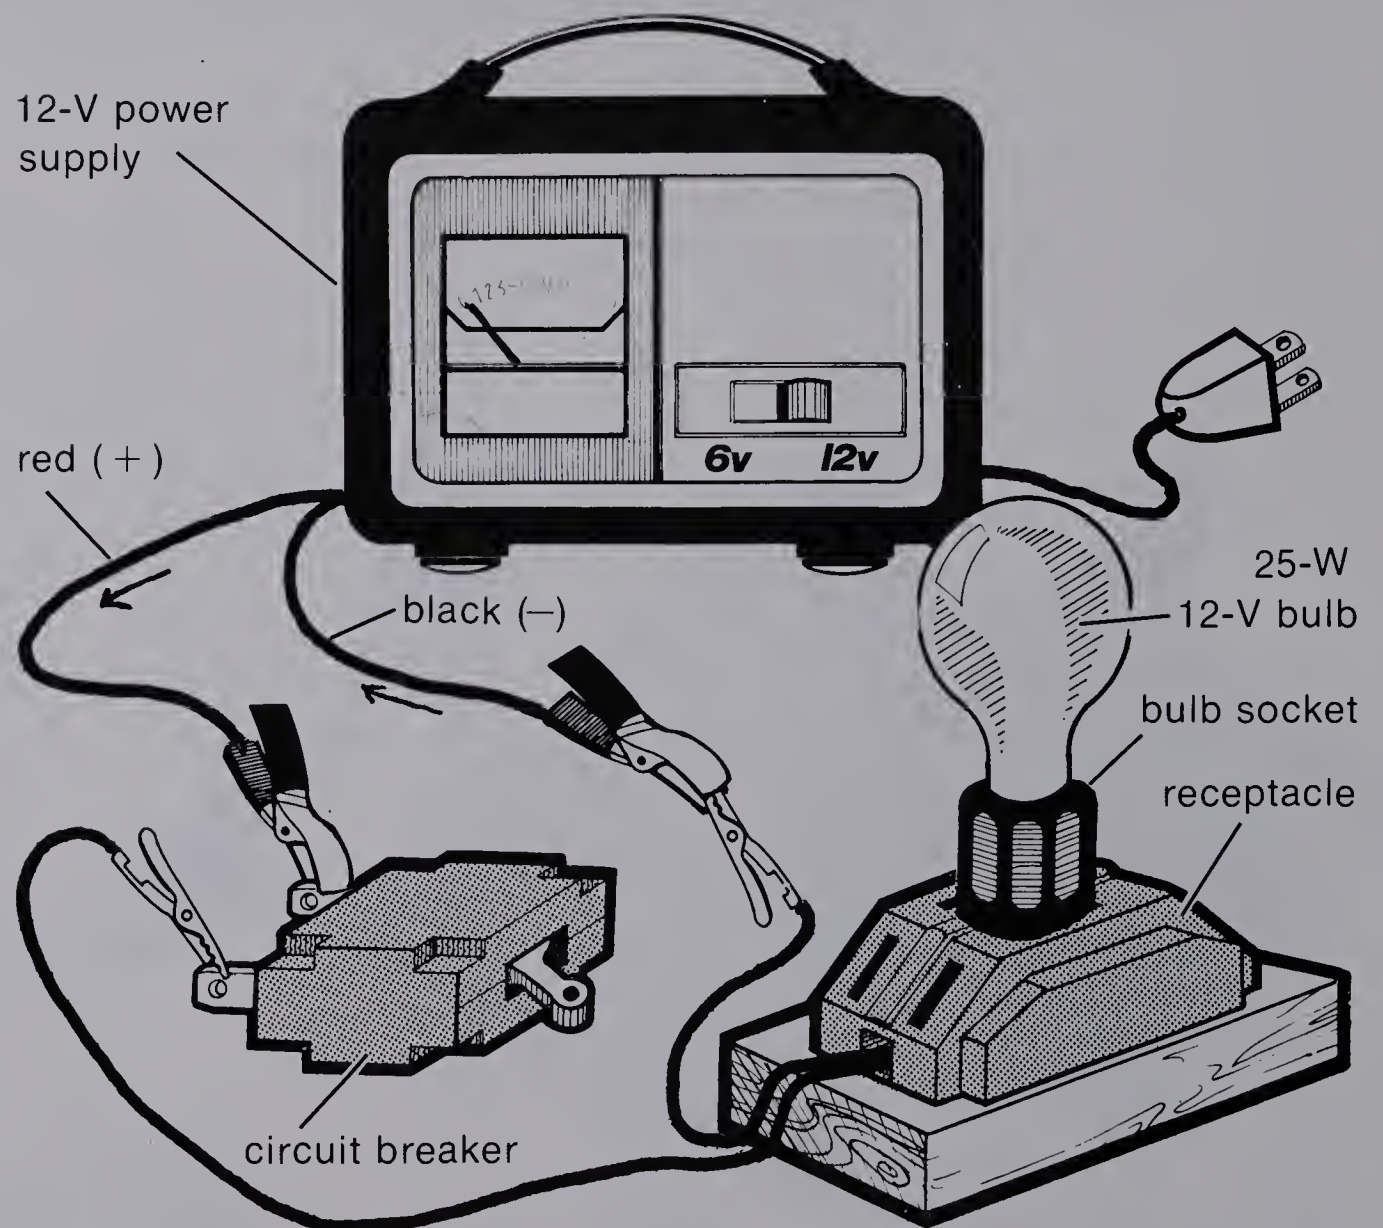
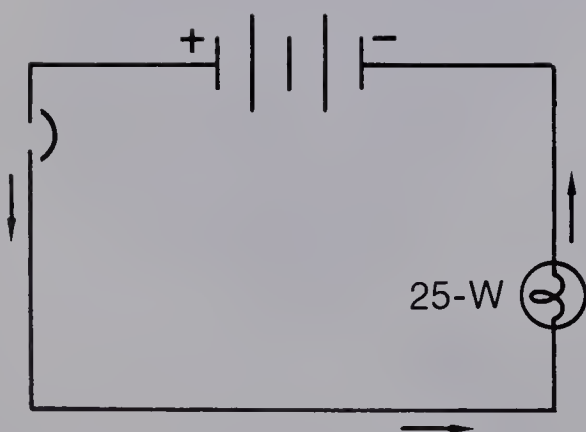

Figure 9-1
Figure 9-2
Figure 9-1 shows a circuit that will supply electric current to a bulb. You can easily trace the current path, or circuit. From the red (+) terminal of the power supply, electricity flows through the circuit breaker, through the bulb, and then back to the power supply. Figure 9-2 is a way to show that circuit. It is called a circuit diagram.
- 9-1. Compare Figure 9-1 with the circuit diagram in Figure 9-2. Then draw the circuit diagram symbol for a power supply, a bulb, and a circuit breaker.
Use Figure 9-2 to trace the conducting path from the red, or +, terminal of the power supply to the point where you wish to insert the ammeter. Do this before actually connecting the ammeter.